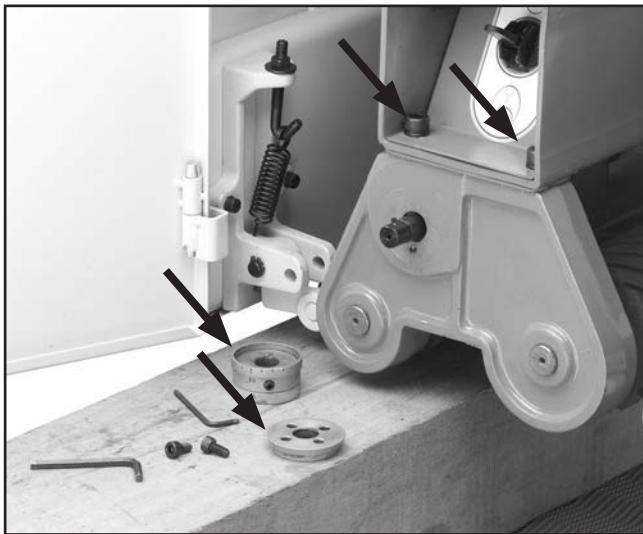

Figure 35. Remove platen adjustment knob, indicator plate, and large cap screws.
- To remove the V-belts from the roller pulley, the roller needs to be removed. Open the left-hand access door and remove the platen micro-adjust knob by loosening the setscrew that secures the face. The plate underneath the knob is secured to the casting by two setscrews—remove these. **Figure 35** shows the knob and indicator plate removed from the casting.
- Remove the large cap screws, also shown in **Figure 35**, to loosen the casting on the roller shafts.